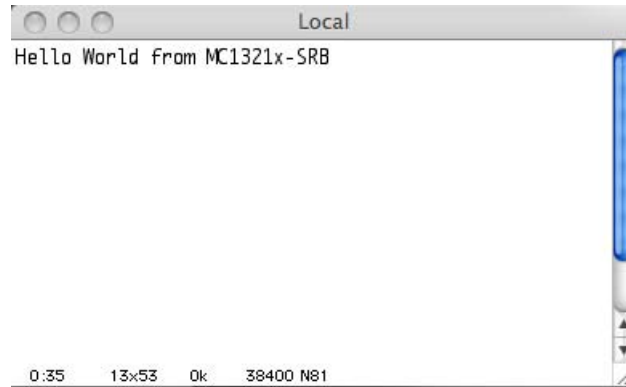

Figure 6. ZTerm Window
6. Download and run the code, then monitor the ZTerm window for the message as shown in Figure 6.